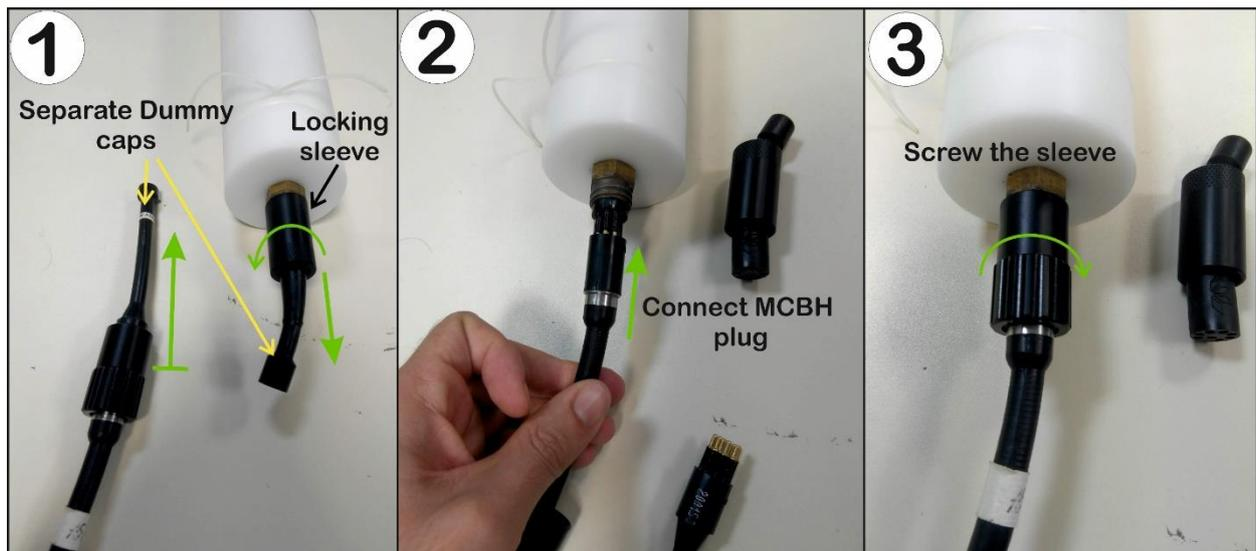

Figure 26 - Connection of DAVS Base Station cable to DAVS connector
To connect the external Ethernet cable of DAVS Base Station first remove the dummy caps from both the DAVS and DAVS Base Station connectors (Figure 26). Start by unscrewing the DAVS locking sleeve in the direction of green arrow (1) and then pull the dummy caps apart gently, storing them in a safe place. Then connect the green cable terminal plug to DAVS connector (2) and screw the threaded connector sleeve (3).